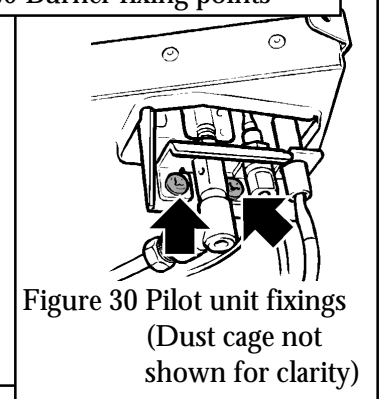

Figure 30 Pilot unit fixings
13.3.8 Remove the first screw securing the dust cage to the pilot unit / burner (see figure. 30). Carefully remove the dust cage and place aside.